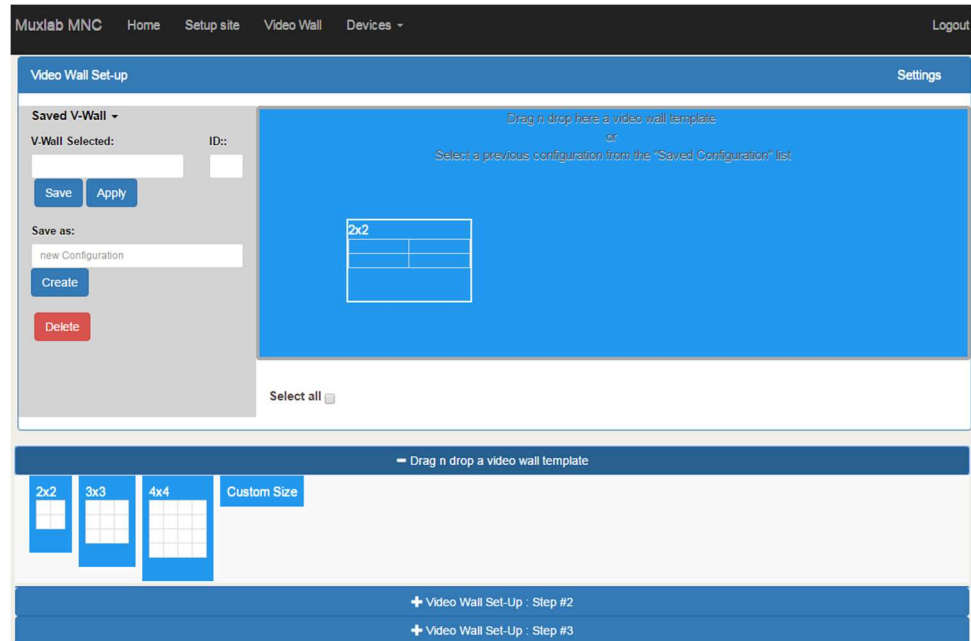

Figure 254: Video Wall Tab – Dragging to Create a 2x2 Video Wall
- a. By clicking on and dragging any of the NxN preconfigured boxes into the display pane, the user creates a video matrix of the same size. In the example shown in Figure 254, a 2x2 video wall consisting of 4 monitors is created. Custom video wall sizes may also be created.